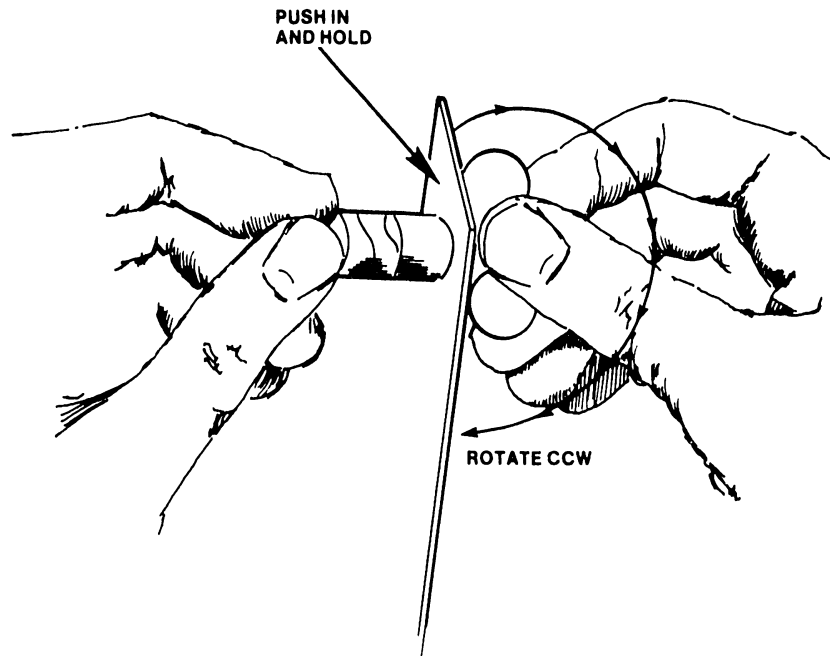

FIGURE 6
- d. Maintain a secure hold on the metal lock and turn the wing-lock 1/4 turn counter-clockwise to disengage. (Figure 6.)